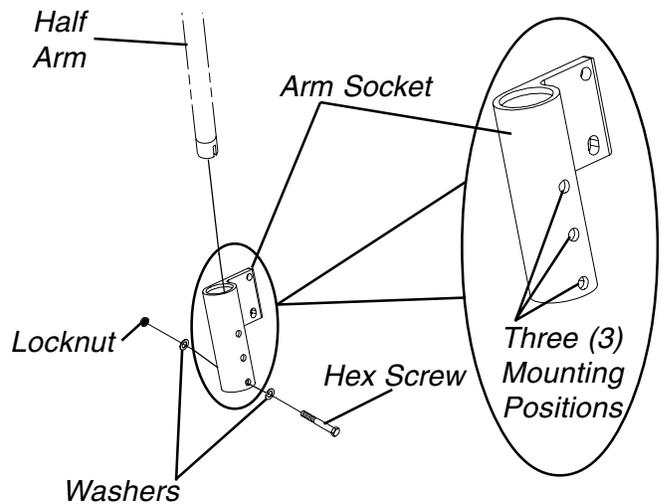

FIGURE 10 - ADJUSTING HALF ARM HEIGHT
**ADJUSTING HALF ARM HEIGHT (FIGURE 10)**
2. Remove the hex screw, two (2) washers and locknut mounted in the arm socket that determine the half arm height.
3. Reposition hex screw and one (1) washer to one (1) of three (3) positions depending on the desired height.